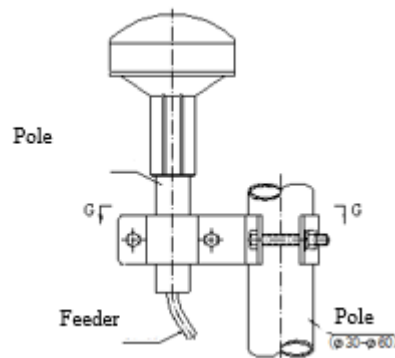

Figure 3-23 Antenna installation diagram
- 3) The installation and replacement of GPS antenna and feeder must follow the following steps, as shown in Figure 3-23 Antenna installation diagram.